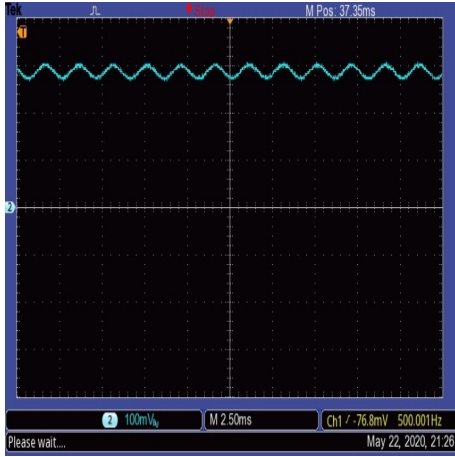
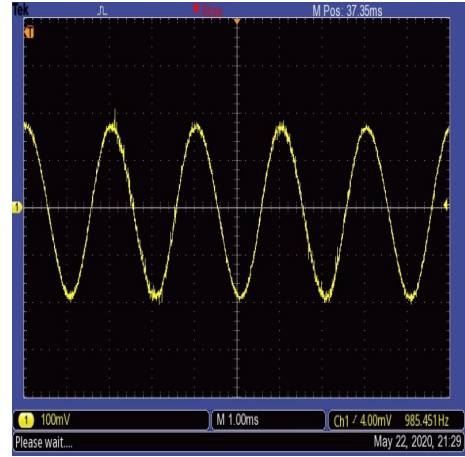

Figure 12: Raw signal
Figure 13: Desired Output
1. The output across our solar panel will have our signal voltage riding on a DC bias offset (Figure 12). In order to receive proper Audio, we should figure out a way to subtract this bias (Figure 13)
2. The actual amplitude of the signal across the solar panel is pretty low ( $\sim 25mV$ ), we need to amplify it to the voltage standards of Aux Audio Jacks (Figure 13)